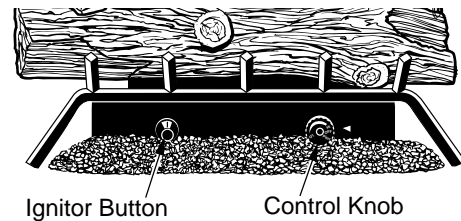

Figure 40 - Control Knob and Ignitor Button Location
4. Wait five (5) minutes to clear out any gas. Then smell for gas, including near the floor. If you smell gas, STOP! Follow "B" in the safety information in column 2, page 18. If you don't smell gas, go to the next step.
5. Turn control knob counterclockwise  to the PILOT position. Press in control knob for five (5) seconds (see Figure 40).
**Note:** If pilot goes out, repeat steps 3 through 7. This heater has a safety interlock system. Wait one (1) minute for system to reset before lighting pilot again.